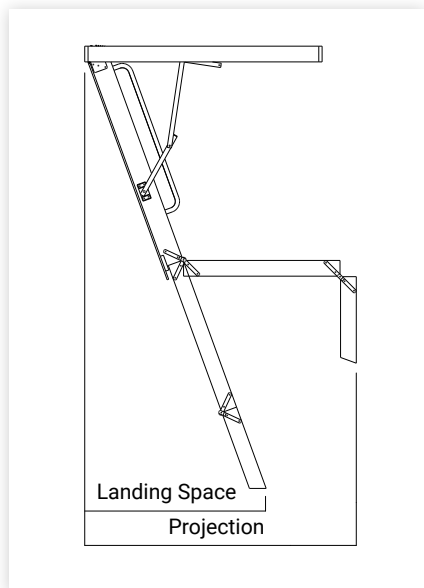

figure 1
- Allowance must be made for the operation of the ladder, as it requires a greater space to open than indicated by the opening in the ceiling (figure 1);